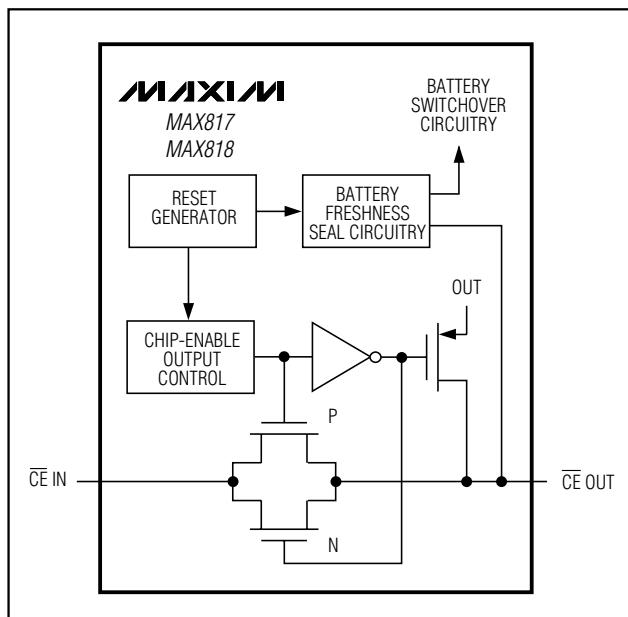

Figure 5. Chip-Enable Transmission Gate
Internal gating of the chip-enable (CE) signal prevents erroneous data from corrupting CMOS RAM in the event of an undervoltage condition. The MAX818 uses a series transmission gate from  $\overline{CE}$  IN to  $\overline{CE}$  OUT (Figure 5). During normal operation (reset not asserted), the CE transmission gate is enabled and passes all CE transitions. When reset is asserted, this path becomes disabled, preventing erroneous data from corrupting the CMOS RAM. The short CE propagation delay from  $\overline{CE}$  IN to  $\overline{CE}$  OUT enables the MAX818 to be used with most  $\mu$ Ps. If  $\overline{CE}$  IN is low when reset asserts,  $\overline{CE}$  OUT remains low for typically  $15\mu s$  to permit the current write cycle to complete.
When the CE transmission gate is enabled, the impedance of  $\overline{\text{CE}}$  OUT is equivalent to a  $40\Omega$  resistor in series with the source driving  $\overline{\text{CE}}$  IN. In the disabled mode, the transmission gate is off and an active pull-up connects  $\overline{\text{CE}}$  OUT to OUT (Figure 5). This pull-up turns off when the transmission gate is enabled.